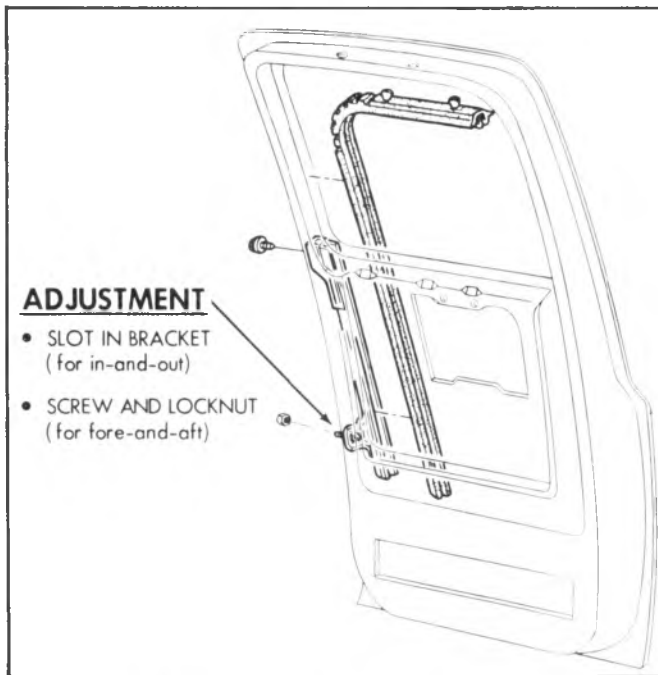

Fig. 2D-44--Glass Run Channel Adjustment
4. Raise glass as far as possible, then slide glass until the roller is in line with the notch in the sash channel. See figure 2D-45. Disengage roller from channel.
WINDOW REGULATOR ASSEMBLY--FIG. 2D-45